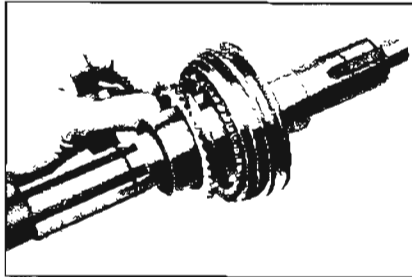

Figure 4-56—Installing Synchronizing Ring
2. Install the first speed gear synchronizing ring so the notches in the ring correspond to the keys in the hub. See Figure 4-56.